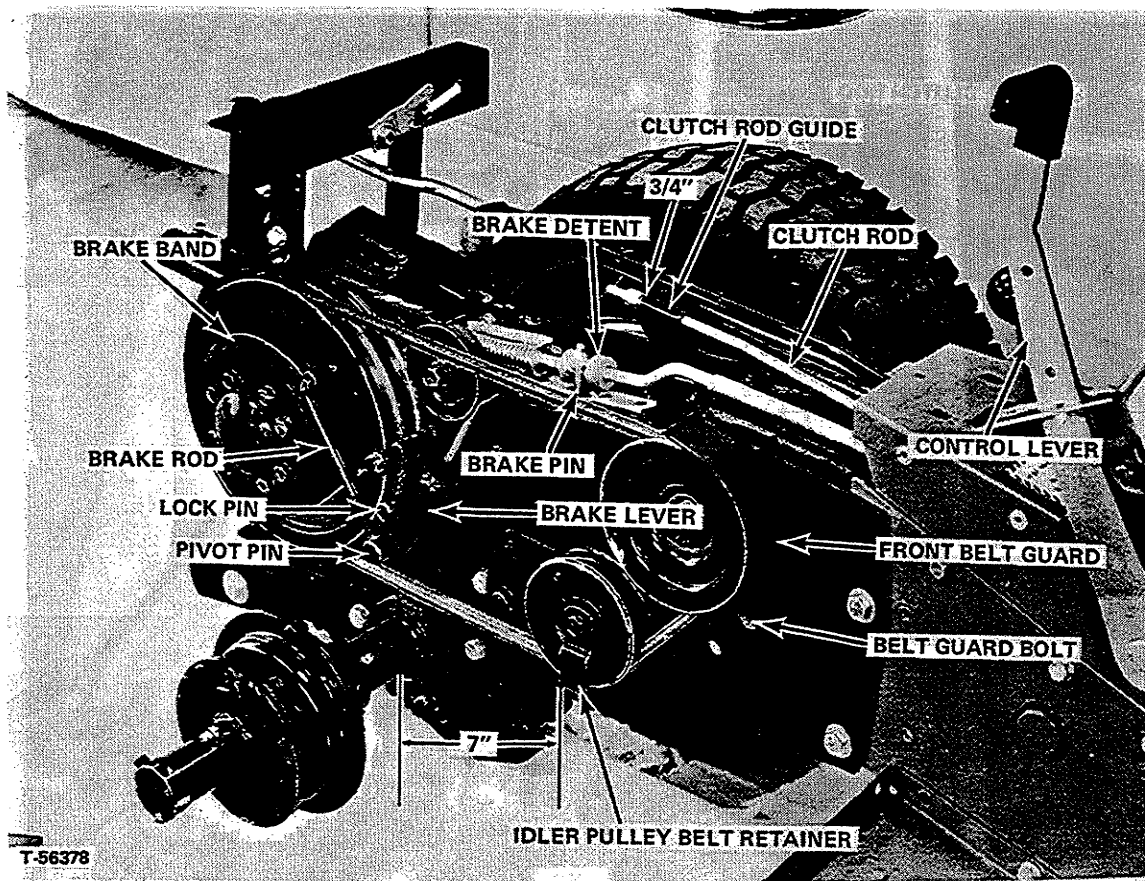

FIGURE 25
3. With clutch pedal up in engaged position adjust jam nuts on clutch rod $3/4$ inch away from clutch rod guide (Figure 25).
4. Rotate front belt guard around belt guard bolt until guard has clearance of $3/32$ to $1/8$ inch to outside diameter of front pulley at the closest point. Be sure guard stays in proper location as belt guard bolt is tightened (Figure 25).
5. Rotate the idler pulley belt retainer around pulley until rear edge of retainer is 7 inches from front side of axle shaft as shown in Figure 25. Securely tighten bolt through pulley hub.
7. (Figure 25), with control lever in neutral position make sure center of notch in brake detent is centered on brake pin. If necessary loosen setscrew in detent, move it, and retighten setscrew.
10. See Figure 25. With control lever in neutral position rotate pivot pin on threads on brake rod so that when pin is reinstalled in hole in brake lever all of the slack will be taken out of brake band. Fasten pivot pin in place in brake lever with lock pin.